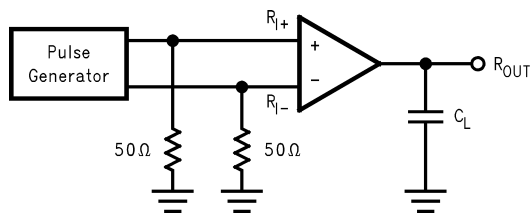
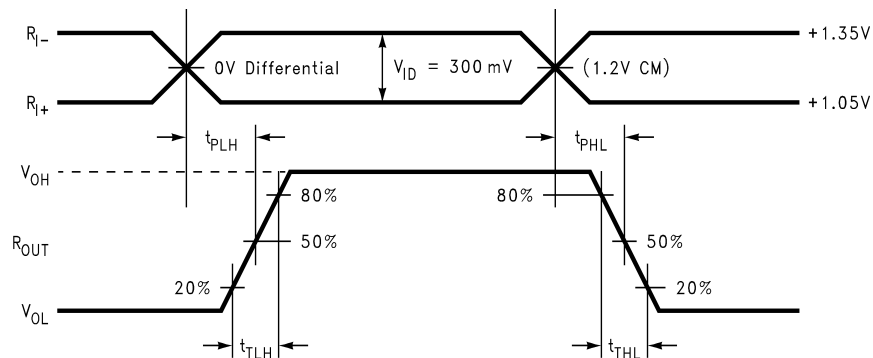

Figure 9. Receiver Propagation Delay and Transition Time Test Circuit
Figure 10. Receiver Propagation Delay and Transition Time Waveforms
| t PHLD                         | Differential Prop. Delay High to Low (2)                      | See Figure 9 and Figure 10C L = 35 pF                         | 2.0 | 2.4  | 3.9  | ns    |